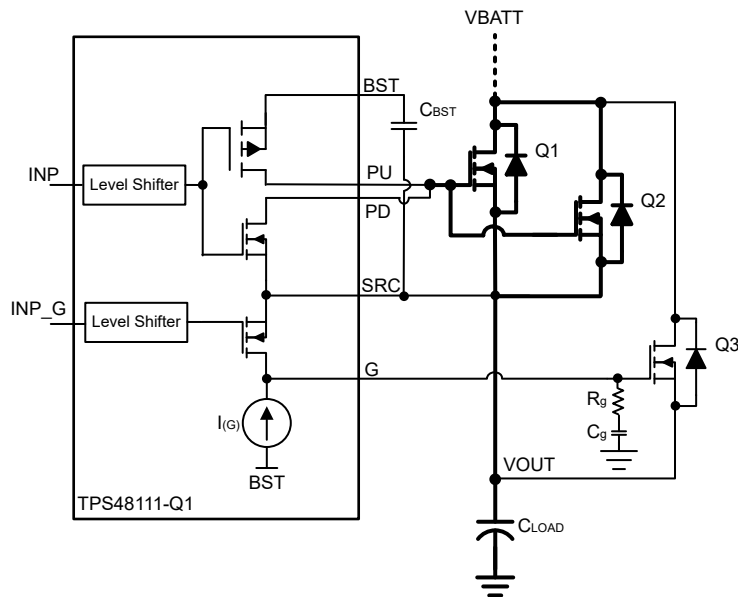

Figure 8-7. Capacitor Charging Using Gate Slew Rate Control of Precharge FET
The TPS4811-Q1 integrates precharge gate driver (G) with a dedicated control input (INP_G). This feature can be used to drive a separate FET that can be used to precharge the capacitive load. Figure 8-7 shows the precharge FET implementation for capacitive load charging using TPS4811-Q1. An external capacitor C_g reduces the gate turn-ON slew rate and controls the inrush current.